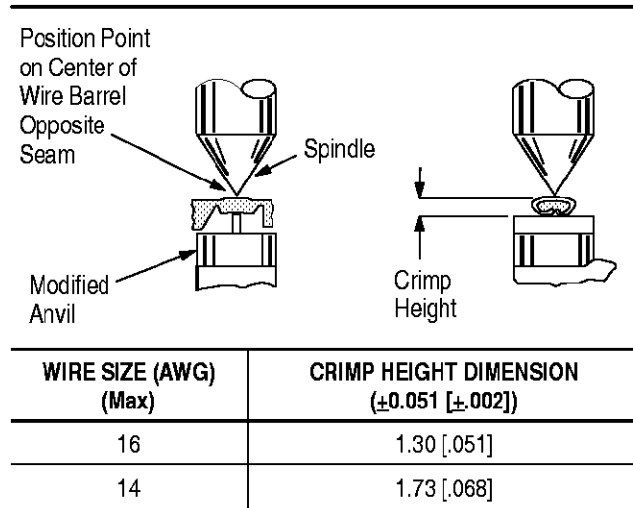

Figure 5
This inspection requires the use of a micrometer with a modified anvil as shown in Figure 5. It is
3. Using a crimp height comparator, measure wire barrel crimp height as shown in Figure 5. If the crimp height conforms to that shown, the tool is considered dimensionally correct. If not, refer to Section 6 for information on obtaining evaluation and repair.